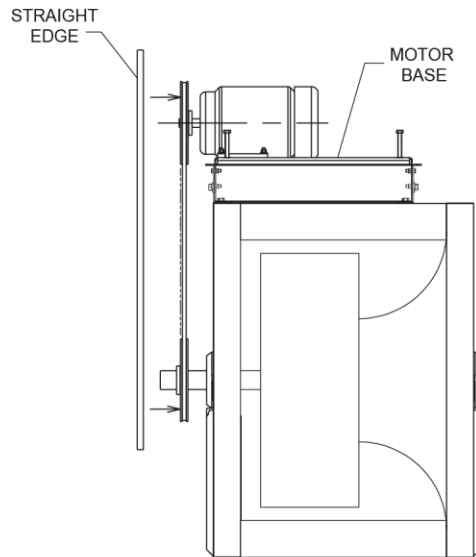

FIGURE 43 - SHEAVE ANGULAR ALIGNMENT
7. As the belts start to tighten, check for parallel misalignment by placing a straight edge across the outer face of the sheaves as shown in *Figure 43 on page 56*. The straight edge should be long enough to extend past both sheaves.